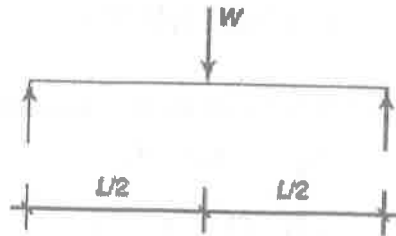

Fig. 1
- (b) Determine the collapse load of a fixed beam with a concentrated load at mid-span as shown in Fig. 1. 8